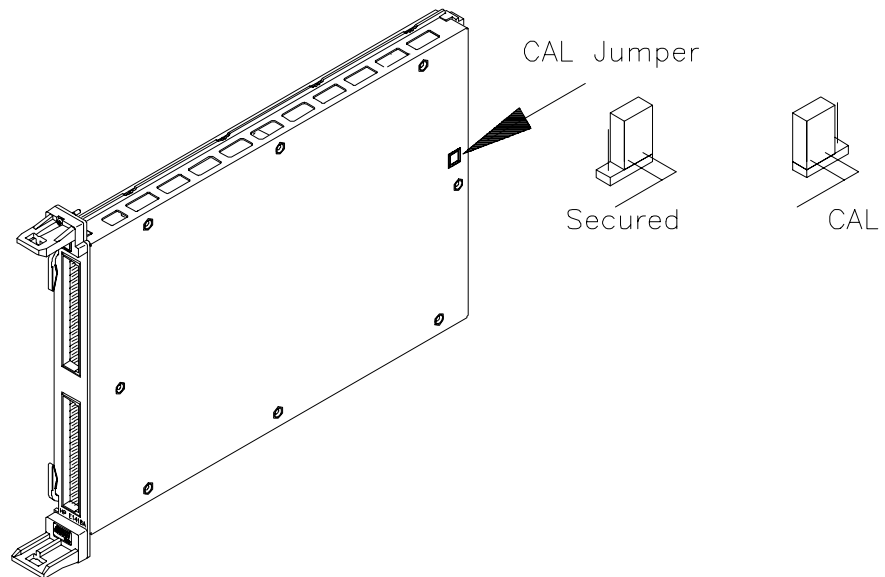

Figure D-1. CAL Store Enable Jumper
4. Set the Cal Store Enable Jumper to the CAL position as shown in Figure D-1.